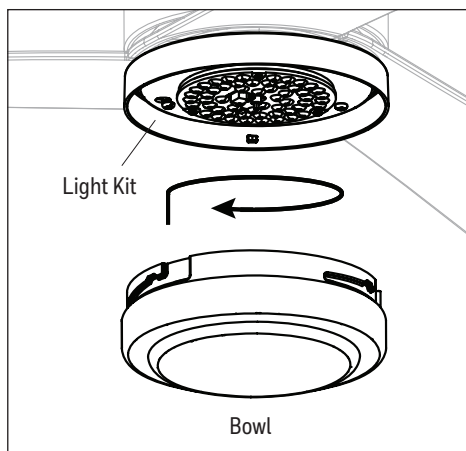

Figure 5.6
- Attach the bowl to the light kit by twisting the bowl firmly in a clockwise direction until it is secure. **CAUTION:** Avoid cross-threading the bowl during installation. Improper installation could cause the bowl to be difficult to remove or fall, which could cause serious injury (Figure 5.6).